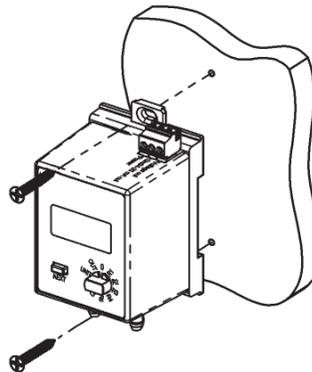

Figure 3: Surface Mounting with Tabs Out
2. Catch the EZ mount hook on DIN rail as shown in Fig 3.
### Snaptrack Mounting, Fig 3: